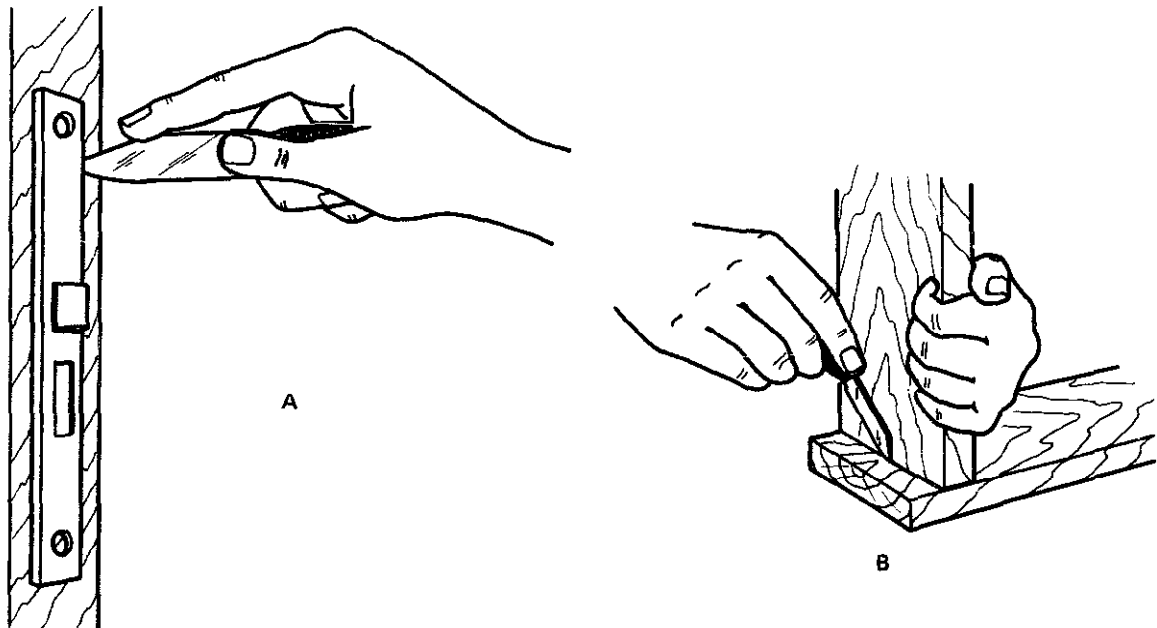

Fig. 9-49 Two applications of the marking knife.
2. Figure 9-49 illustrates other uses of the knife. Notice that in each case the actual part to be fitted is used as the straightedge. If a board is used as a straightedge, as in B, great care must be taken to keep the cutting edge from cutting the board used as a guide.